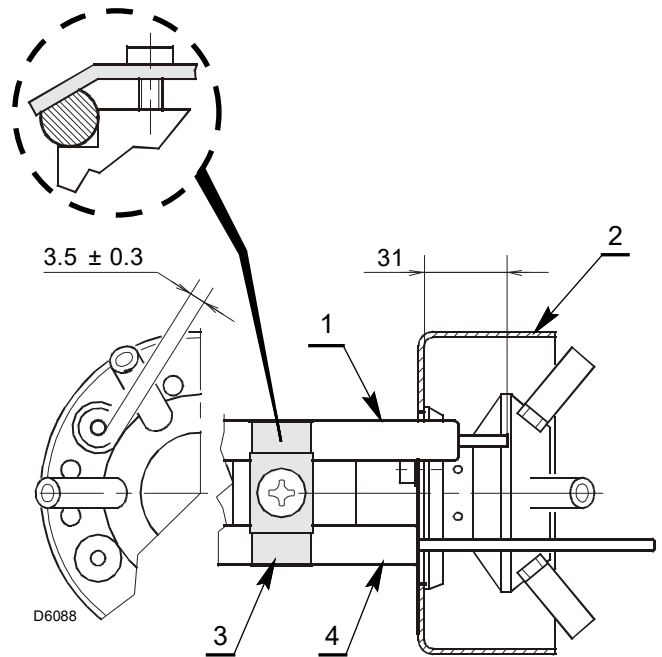

Fig. 14
- Make sure that the plate 3)(Fig. 14) is always inserted in the flattening of the electrode 1).
Respect the positions shown in Fig. 14.